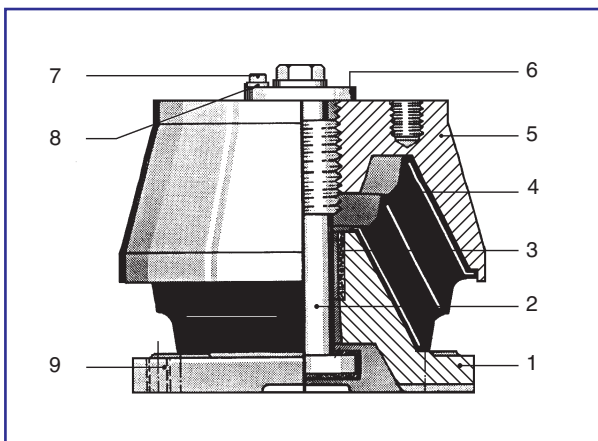

Fig 1 Conical element
- 1) Fit the conical elements to the bracket on the base frame by means of four bolts screwed into the tapped holes on the top casting (5), see fig 1. Tighten the bolts with 250 Nm.
- 2) Remove fixing bolt (7), spring washer (8) and top lock ring (6) from the conical element, see fig 1.
- 3) Position the four jacking bolts in the tapped holes (9) see fig 1, in the base casting (1).
- 7) Turn all the internal buffers (2), see fig 1, to check that they can move freely.
- 8) Care must be taken, during levelling of the installation, to ensure that individual mountings are not overloaded. The variation in laden height should not exceed 2 mm and should ideally be less. The laden height can be measured between top and base casting at H, on two sides (see fig 1).